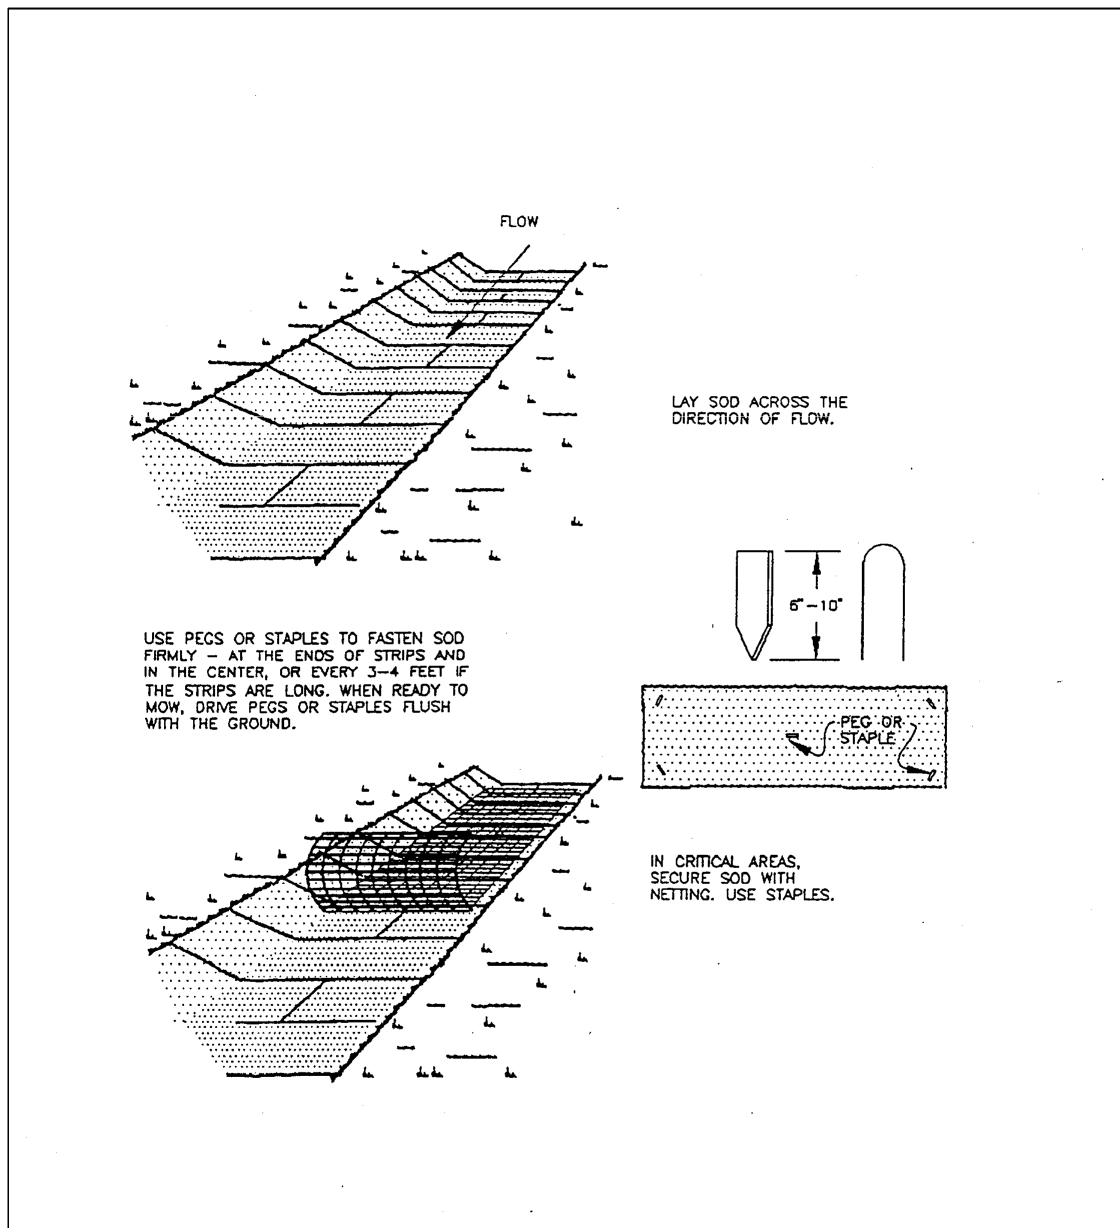

Figure 7.6b. Sodding Swales and Waterways
- Irrigate areas to be sodded with a minimum of ½ inch (13 mm) of water, unless recent rains have provided an equivalent amount of moisture (see Figure 7.6b).